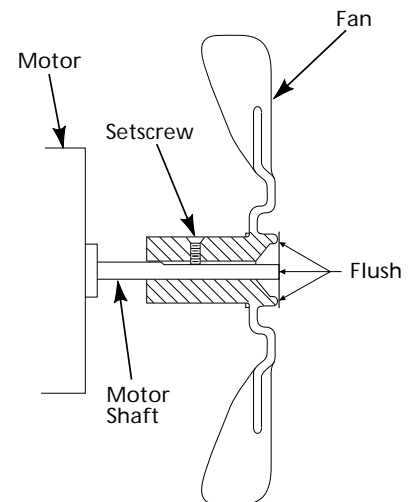
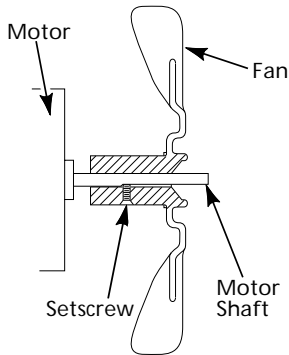

Figure 11 - Fan Cross Section, Models 2E510D, 2E511D, and 3E218D
Figure 12 - Fan Cross Section, Model 3E219C
6. (Models 2E510D, 2E511D, and 3E218D) Replace fan on motor shaft. Place fan hub flush with end of motor shaft (see Figure 11). (Model 3E219C) Replace fan on motor shaft. Make sure set screw is touching back of flat surface on motor shaft (see Figure 12, page 7).